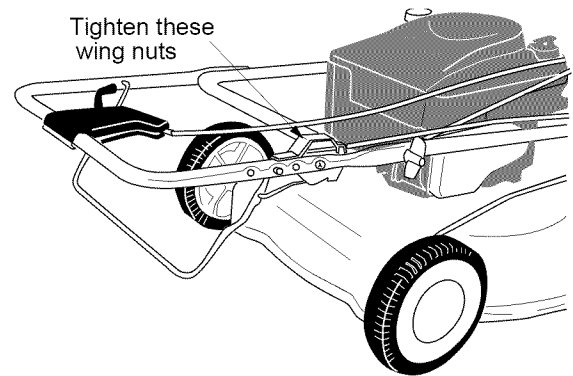

Figure 3
- Tighten the wing nuts, shown in Figure 3, and raise the handle assembly until it clicks into place. Make sure not to kink the control cables.